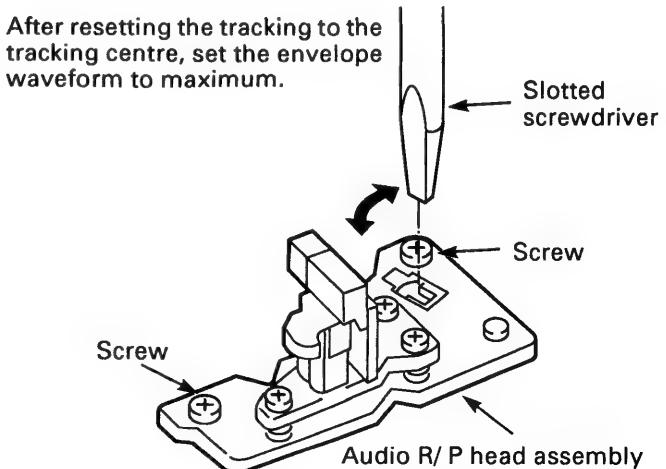

Fig.4-3-6
###### (2) Horizontal position adjustment (See Fig.4-3-6)